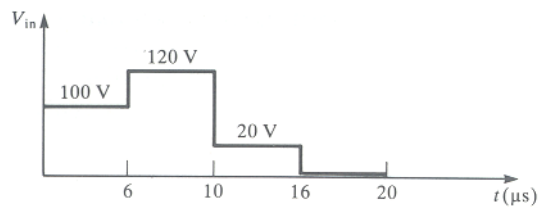

Fig. 1
2. A time-domain reflectometer (TDR) is an instrument used to determine properties of transmission lines. In particular, it can be used to detect the locations of imperfections such as breaks in the line. The instrument launches a pulse down the line then records the transit time for that pulse to be reflected at some discontinuity and to return to the line input. Suppose a TDR having a source impedance of  $50\ \Omega$  is attached to a  $50\ \Omega$  coaxial cable having some unknown length and load resistance. The dielectric of the cable is Teflon (relative permittivity 2.1). The open-circuit voltage of the TDR is a pulse of duration  $10\ \mu\text{s}$ . If the recorded voltage at the input of the TDR is as shown in Fig. 1, determine the length of the cable and the unknown load resistance.